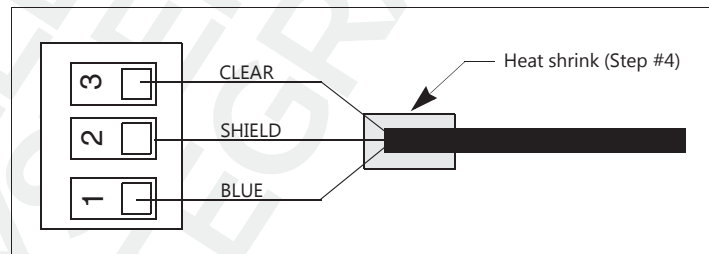

Figure 2.1 Terminating the MedLAN Cable
6. Install wires in each connector as shown in Figure 2.1 below.